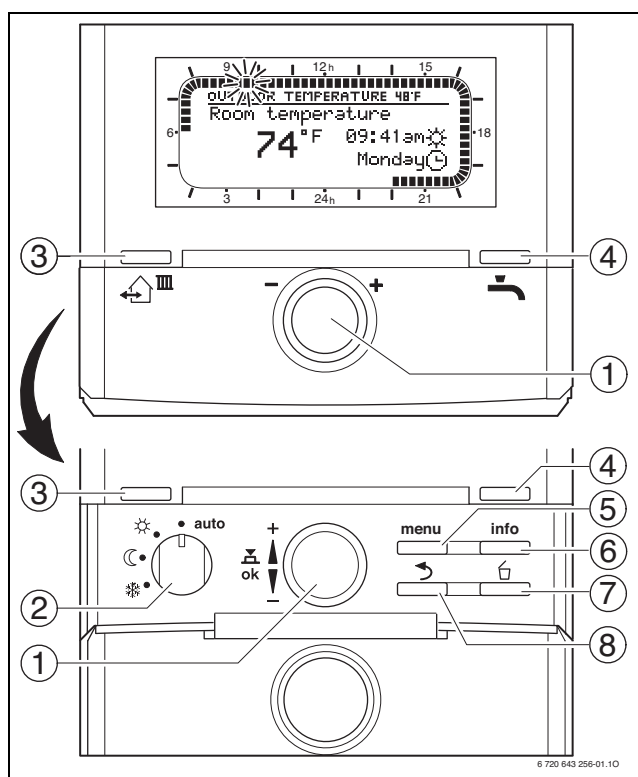

Fig. 57 FW 200 heating control with front flap closed / flap opened
#### Legend to Fig. 57:
In the following description, at any time, pressing the menu button (→ Fig. 57, [3]) will bring you back to the standard display.
- ▶ Turn the dial (→ Fig. 57, [1]) to adjust time and date.
- ▶ Press and hold the menu button (→ Fig. 57, [5]) until this prompt disappears.
- ▶ Press the menu button (→ Fig. 57, [5]).
- ▶ Turn the dial (→ Fig. 57, [1]) counter-clockwise until **General settings** is highlighted.
- By turning the selector (→ Fig. 57, [2]) to the comfort symbol (☀).
- ▶ Press the menu button (→ Fig. 57, [3]).